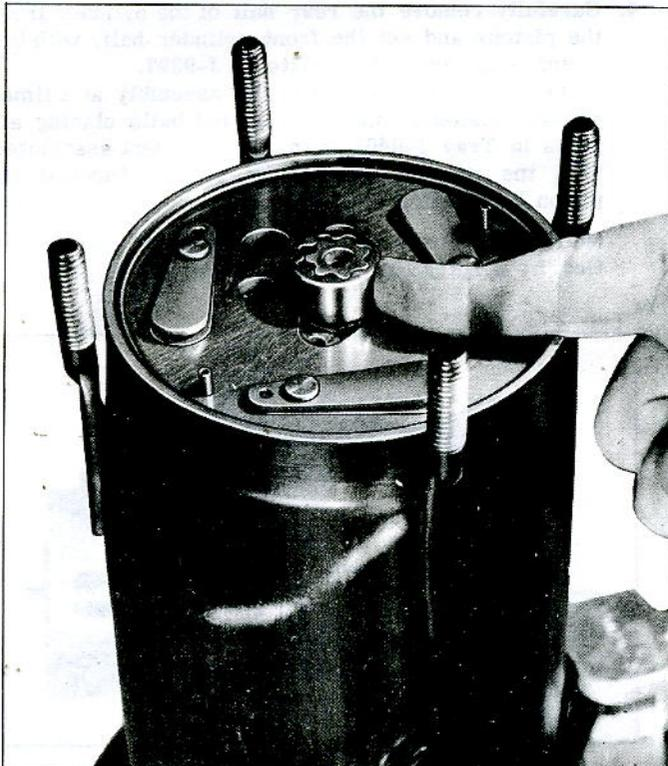

Fig. 44—Proper Oil Pump Gear Positioning
- c. Facing the centerline of the sump and viewing from the sump side (bottom) of the compressor, move the OUTER gear toward the left (side having the oil test fitting) until it is at approximately 90° (9 o'clock position) from the centerline of the oil sump (fig. 44).